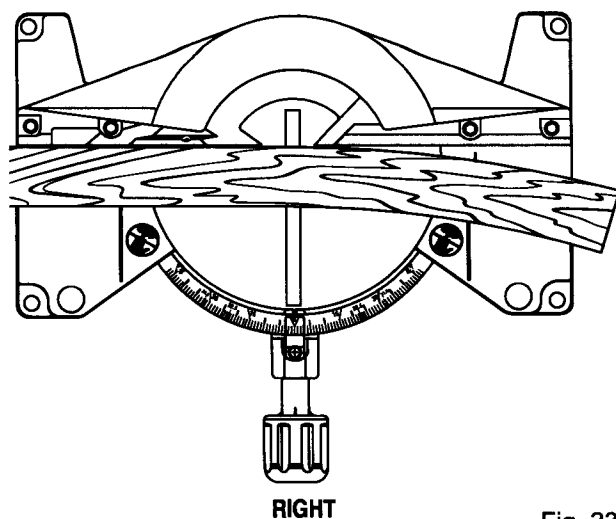

Fig. 23
- Place the workpiece flat on the miter table with one edge securely against the fence. If the board is warped, place the convex side against the fence. If the concave edge of a board is placed against the fence, the board could collapse on the blade at the end of the cut, jamming the blade. See Figures 23 and 24.
See Figures 23 and 24.
When cutting warped material, always make sure it is positioned on the miter table with the convex side against the fence as shown in figure 23.